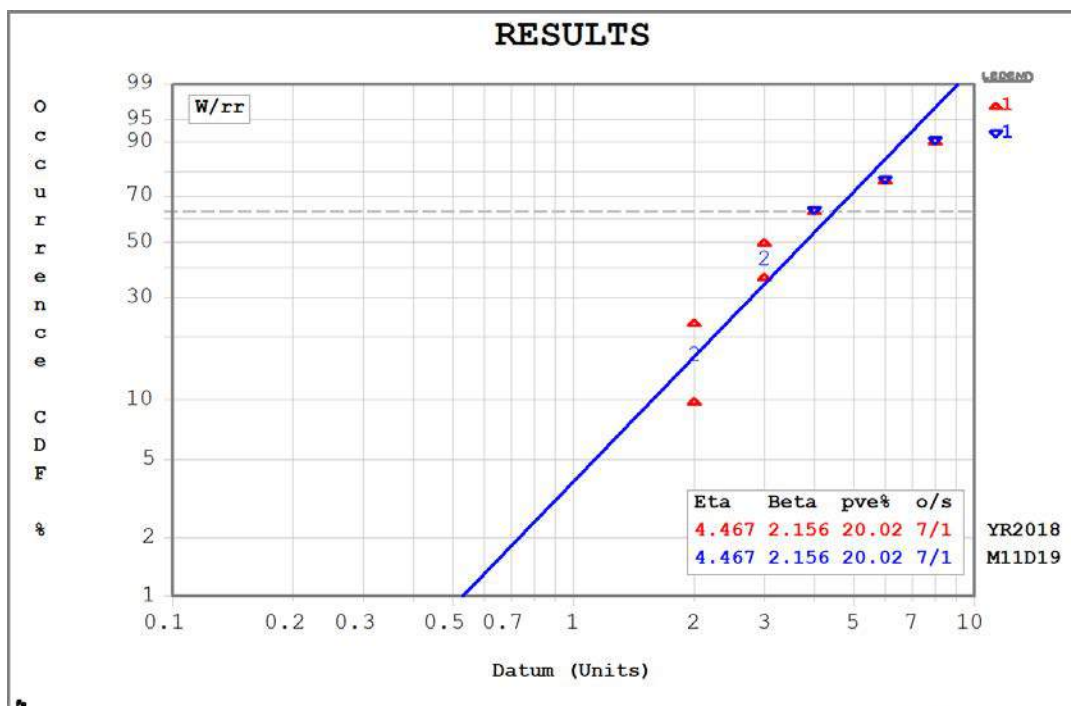

Figure 4: Weibull Plot Using “x2” After Data Values “2” and “3” for Set #2
**D.** At the Main Screen, select Open/Import. Load file **PlayTIME-A-Section-II-B.w**. For this 2nd data set (same data values as set 1), repeated values such as “3” and “2” are entered with only one data entry each by changing the “x1” to “x2”. Select the plot to enlarge. Your plot should resemble Figure 4 below. Same solution for both data sets! A shortcut way to enter repeated values is with the frequency value after the separator “x”. Select on the plot or use the <ESC> key to return to the Main Screen.